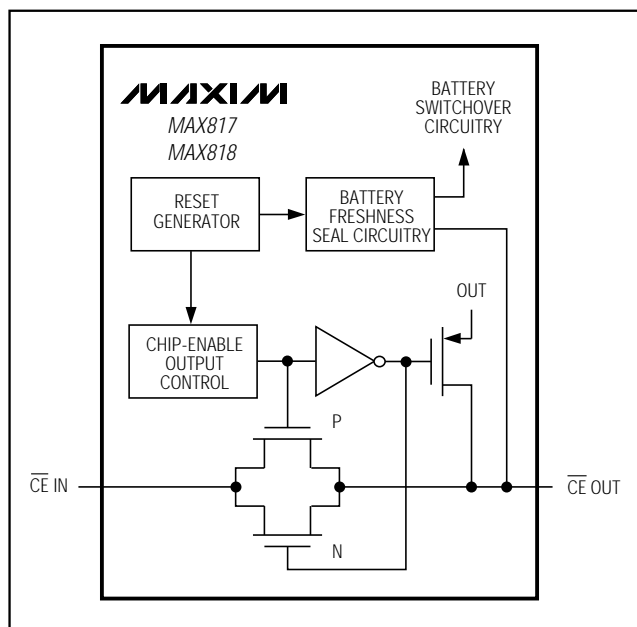

Figure 5. Chip-Enable Transmission Gate
Internal gating of the chip-enable (CE) signal prevents erroneous data from corrupting CMOS RAM in the event of an undervoltage condition. The MAX818 uses a series transmission gate from $\overline{CE IN}$ to $\overline{CE OUT}$ (Figure 5). During normal operation (reset not asserted), the CE transmission gate is enabled and passes all CE transitions. When reset is asserted, this path becomes disabled, preventing erroneous data from corrupting the CMOS RAM. The short CE propagation delay from $\overline{CE IN}$ to $\overline{CE OUT}$ enables the MAX818 to be used with most μP s. If $\overline{CE IN}$ is low when reset asserts, $\overline{CE OUT}$ remains low for typically 15 μs to permit the current write cycle to complete.
When the CE transmission gate is enabled, the impedance of $\overline{\text{CE}}$ OUT is equivalent to a 40Ω resistor in series with the source driving $\overline{\text{CE}}$ IN. In the disabled mode, the transmission gate is off and an active pull-up connects $\overline{\text{CE}}$ OUT to OUT (Figure 5). This pull-up turns off when the transmission gate is enabled.